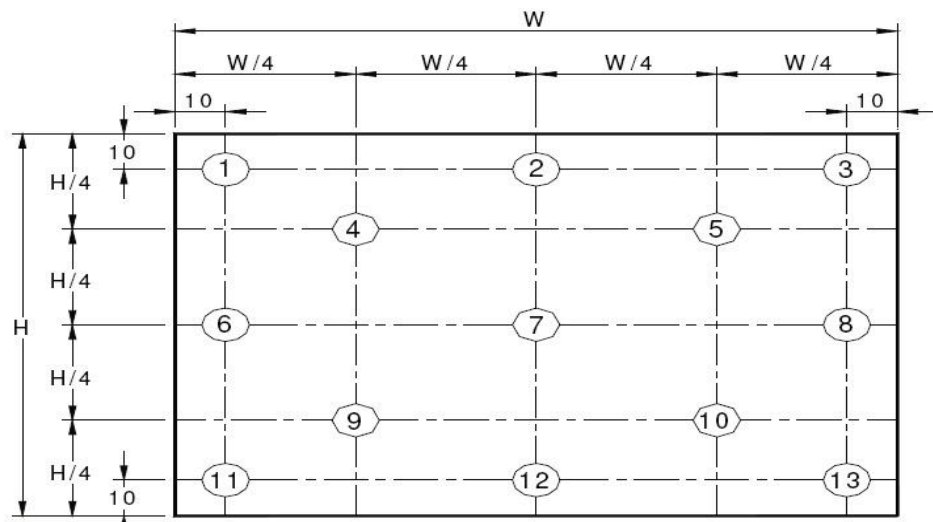
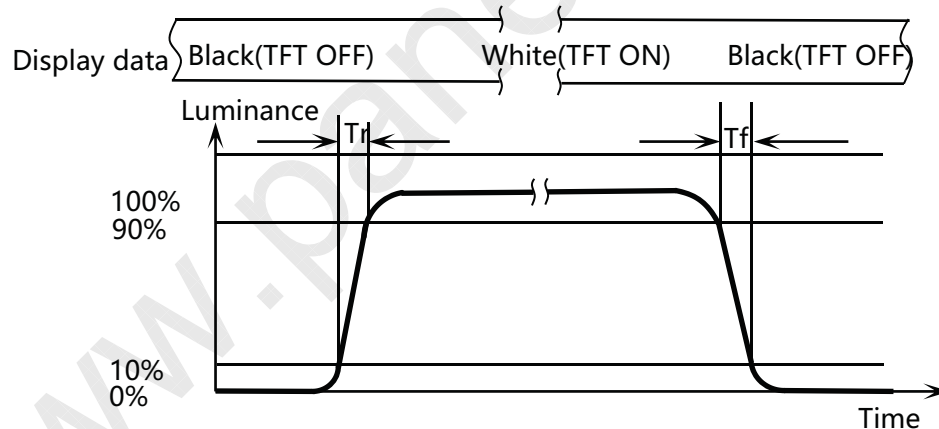

Figure 9. Uniformity Measurement Locations (13 points)
Figure 10. Response Time Testing
Notes : - Viewing angle is the angle at which the contrast ratio is greater than 10. The viewing angles are determined for the horizontal or 3, 9 o'clock direction and the vertical or 6, 12 o'clock direction with respect to the optical axis which is normal to the LCD surface (see Figure 7). - Contrast measurements shall be made at viewing angle of $\Theta = 0$ and at the center of the LCD surface. Luminance shall be measured with all pixels in the view field set first to white, then to the dark (black) state . (see Figure 7) Luminance Contrast Ratio (CR) is defined mathematically.$CR = \frac{\text{Luminance when displaying a white raster}}{\text{Luminance when displaying a black raster}}$ - Center Luminance of white is defined as luminance values of 5 point average across the LCD surface. Luminance shall be measured with all pixels in the view field set first to white. This measurement shall be taken at the locations shown in Figure 8 for a total of the measurements per display. - The White luminance uniformity on LCD surface is then expressed as : $\Delta Y = \text{Minimum Luminance of 5(or 13) points} / \text{Maximum Luminance of 5(or 13) points.}$(see Figure 8 and Figure 9). - The color chromaticity coordinates specified in Table 5 shall be calculated from the spectral data measured with all pixels first in red, green, blue and white. Measurements shall be made at the center of the panel. - The electro-optical response time measurements shall be made as Figure 10 by switching the “data” input signal ON and OFF. The times needed for the luminance to change from 10% to 90% is T_r, and 90% to 10% is T_r. - Cross-Talk of one area of the LCD surface by another shall be measured by comparing the luminance (YA) of a 25mm diameter area, with all display pixels set to a gray level, to the luminance (YB) of that same area when any adjacent area is driven dark. (See Figure 11).
The White luminance uniformity on LCD surface is then expressed as : $\Delta Y5$ = Minimum Luminance of five points / Maximum Luminance of five points (see Figure 8) , $\Delta Y13$ = Minimum Luminance of 13 points / Maximum Luminance of 13 points (see Figure 9).
The electro-optical response time measurements shall be made as shown in Figure 10 by switching the “data” input signal ON and OFF. T_r : The luminance to change from 10% to 90% , T_f : The luminance to change from 90% to 10% .